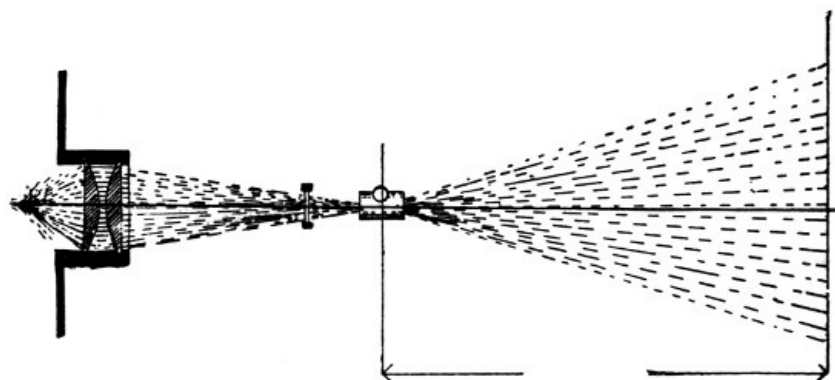

FIGURE 20.
*Optical System.*—In Figure 20 we have the complete optical system of the moving picture or stereopticon outfit. The crater of the arc lamp and the center of the objective lens are at the conjugate focal points (see Optics) and must always be in this relation. The size of the picture projected upon the screen is governed entirely by the focal length of the objective lens and the distance of the screen from this lens. The shorter the focal length, the greater will be the bulging out or rounding of the lens, and the larger the picture projected. The objective lens is always fitted with an adjusting device of some kind by which it can be moved forward or back a little to focus the picture properly.
In order to project a picture properly, it is necessary that the center of the arc or other illuminant, the center of the condensers, and the center of the objective, all fall in one straight line as indicated in Figure 20. The condensers are provided for the purpose of gathering and condensing as many of the scattering light rays of the arc lamp as possible and bringing them to bear upon the slide and the objective.